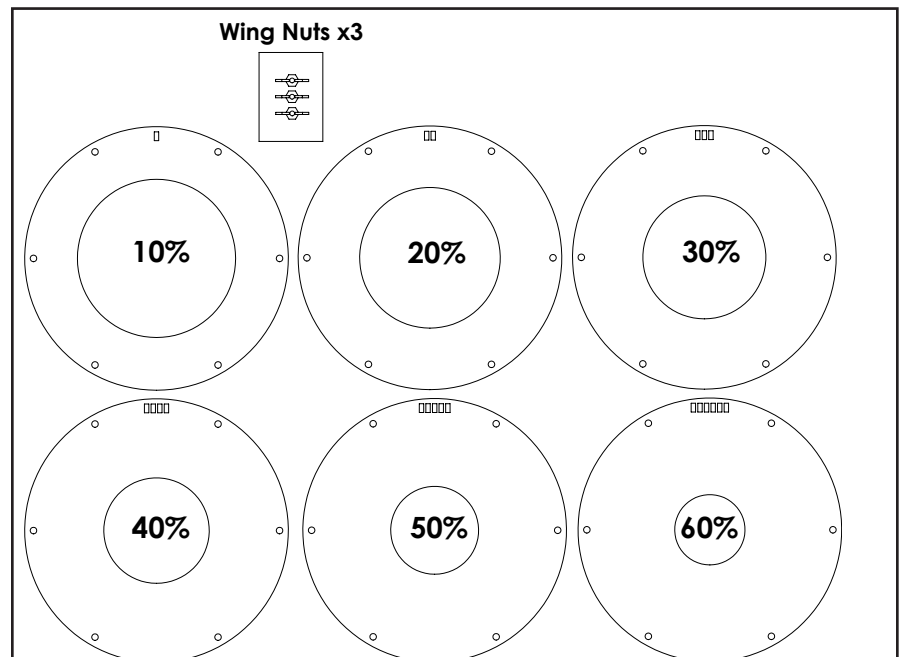

Figure 43: Restrictor Ring Kit
**NOTE:** There are six different restrictor sizes, they are marked with rectangular holes which coincide with the percentage of restriction (Figure 43).